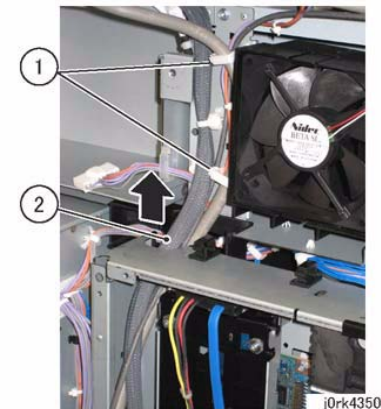

Figure 3 Removing Cables
5. Remove the various cables through the hole of the SBC Chassis. (Figure 3)